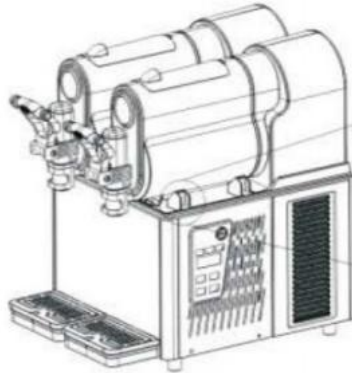

Fig.10
3. Takeout stirrer and the seal of stirrer. See Fig.10.